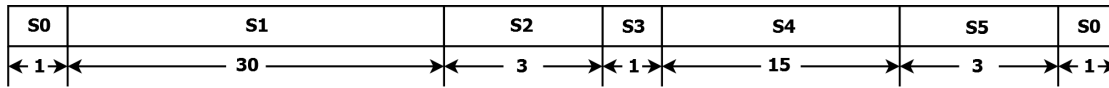

Figure 6: Time Line in Seconds of Initial FSM design
The brain of the traffic light controller is the FSM. For the the initial design, *Count* and *Rst* constitute the only input to the FSM. The output of the FSM includes the *highwaySignal* and *farmSignal* previously mentioned as well as *RstCount*, the counter reset. The operation of the FSM came be described by Table 1 and the time line in Figure 6. We can also describe this behavior using a state diagram similar to that seen
3. Given Table 1 and Figure 6, create a state diagram for the traffic light controller FSM. Be sure to include the appropriate input and output labels. Assume  $S0$  is the reset state.